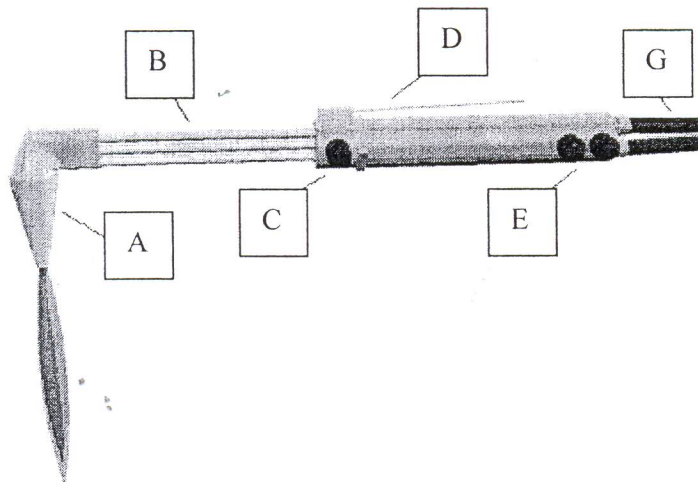

Figure 3
- a) State all name of the cutting touch as show in figure 3